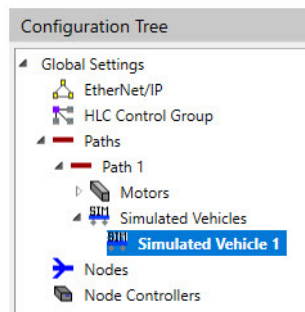

Figure 4-135: Configuration Tree Showing Simulated Vehicle Added
*The list of simulated vehicles is expanded and displayed below **Simulated Vehicles** in the Configuration Tree, see Figure 4-135 with the new simulated vehicle added to the list. The simulated vehicle is automatically numbered with the next **Simulated Vehicle ID**.*